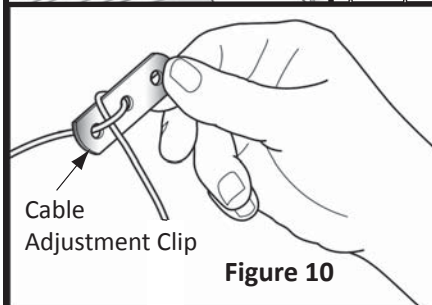

Figure 10
Step 10: Attach the Cable Adjustment Clip to the loose end of the Lifting Cable, exactly as shown in Figure 10.
Step 7: Your door will be supplied with (4 or 6) cables. The longer cables are the Lifting Cables and the shorter cables are the Safety Retention Cables. Install one of the Safety Retention (shorter) Cables as shown in Figure 10 (right side). For two springs, install two Safety Retention Cables.